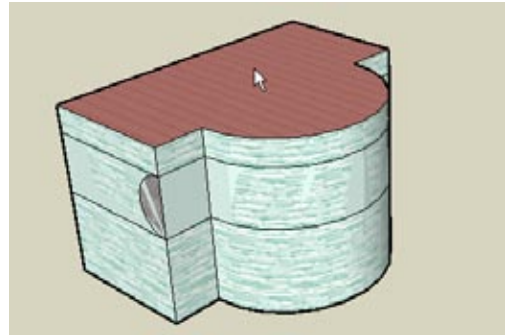

Figure 2-7
4. Move the cursor to the top face of the building (don't click yet), and press and hold the Alt key (Cmd on the Mac). You'll see preview edges of the completed extrusion all around the building, as shown in Figure 2-7.